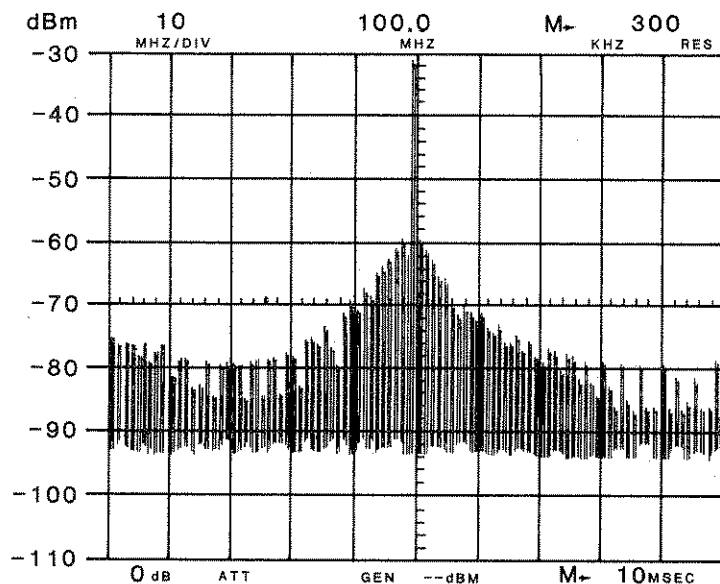

Figure 7-9 Signal of Interest at 100 MHz (TC3)
6. Use the IF GAIN and/or the RF ATTEN keys to position the signal with its peak close to, but not above, the top graticule (see Figure 7-9).